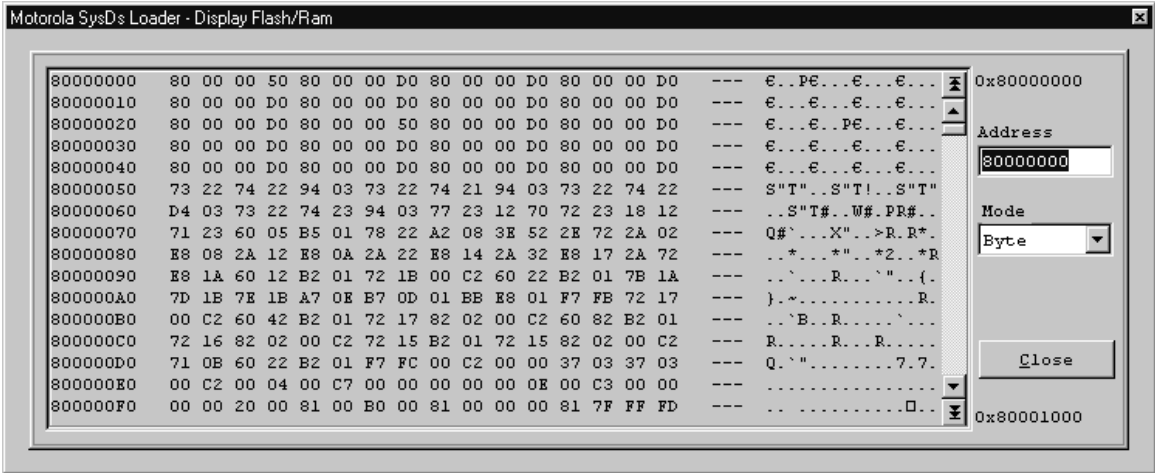

Figure 3-3 Display Flash/Ram Screen
13. To view the contents of FLASH memory, click the **Display** button on the main screen. The Display Flash/Ram screen appears, as shown in Figure 3-3.